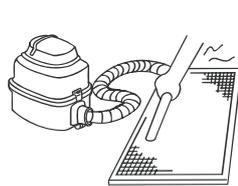
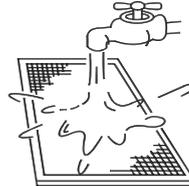

Fig. 6-1
Fig. 6-2
- The air-in side should face up when using vacuum cleaner. (Refer to Fig. 6-1) The air-in side should face down when using water. (Refer to Fig. 6-2)